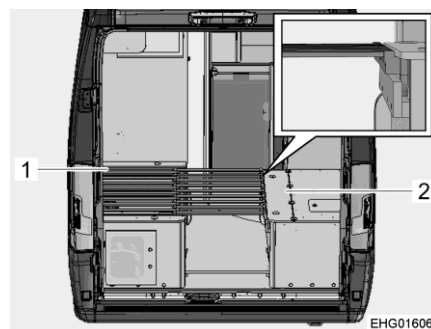

Fig. 65 During conversion
- Slightly lift the slatted frame of (Fig. 65,1) the left-hand bench and pull out the slatted frame pull-out.
- Open the bedding box cover (Fig. 65,2) on the right bench.